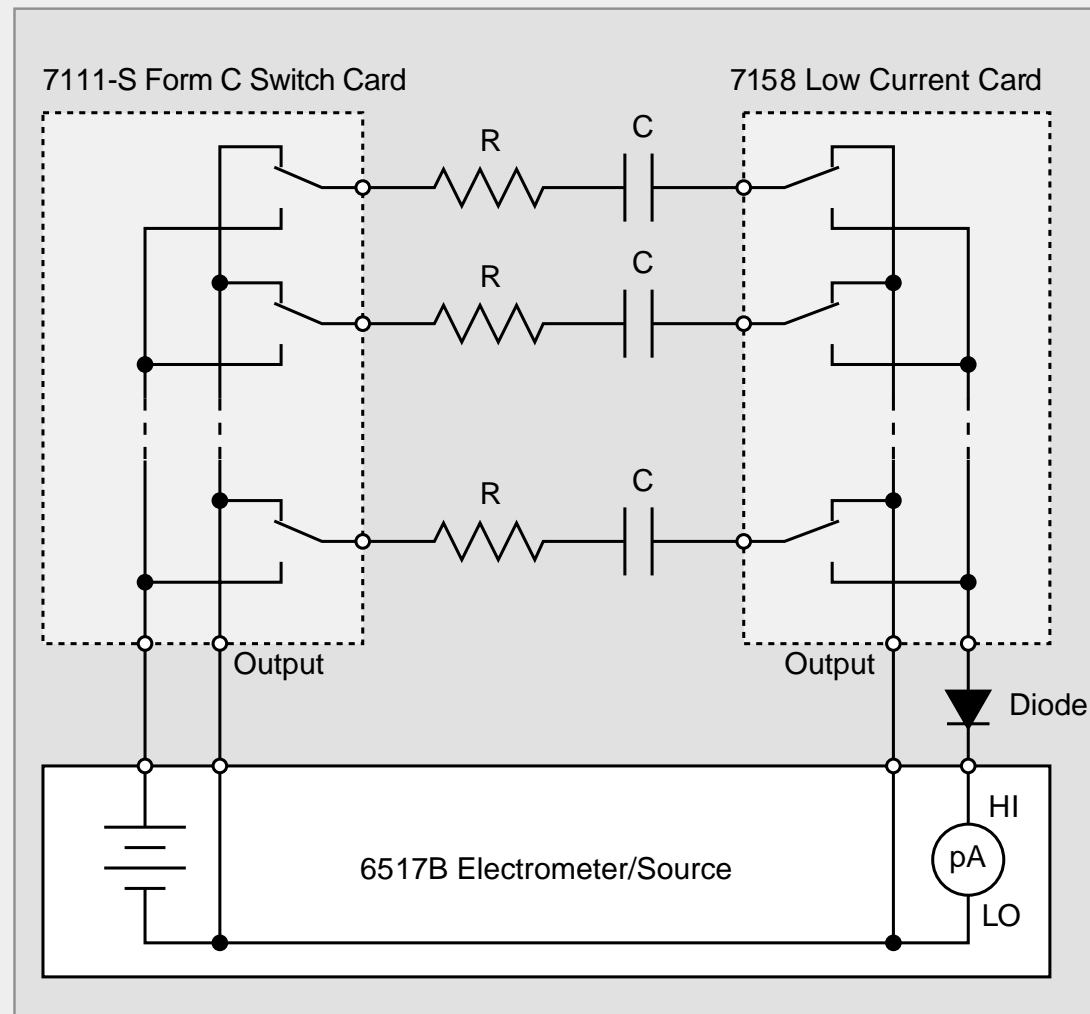

Figure 3. Capacitor leakage test system
Figure 3 illustrates a capacitor leakage test system that uses the Model 6517B Electrometer/Source, Model 7158 Low Current Scanner Cards, and a Form C Switch Card, such as the Model 7111-S. The cards are installed in a Model 7002 Switch Mainframe.
After the capacitors have been tested, the voltage source should be set to zero; some time must be allowed for the capacitors to discharge before they are removed from the test fixture. Note that in Figure 3 the capacitors (C) have a discharge path through the normally closed contact of the relays. The test sequence is summarized by: